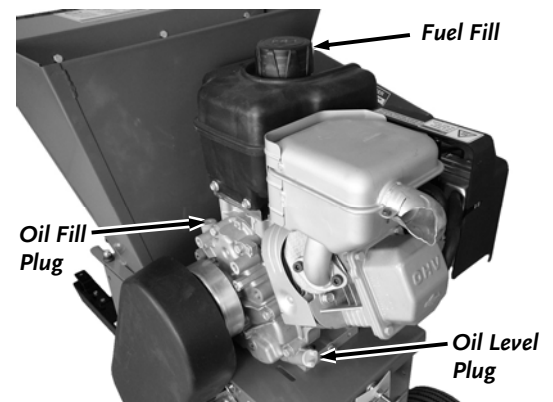

Figure 8
1. Block up the machine so the Engine is level. Remove the Oil Level Plug and the Oil Fill Plug with a Flat Head Screwdriver (**Figure 8**).
6. Remove the Fuel Fill Cap and fill the Fuel Tank with fresh, unleaded gas (with a minimum of 85 Octane) to approximately 1" to 1-1/2" below the top of the Fill Neck to allow for Fuel expansion (**Figure 8**). Be careful not to overfill and reinstall the Fuel Fill Cap before starting the Engine. See your Engine Owner's Manual for more detailed information.